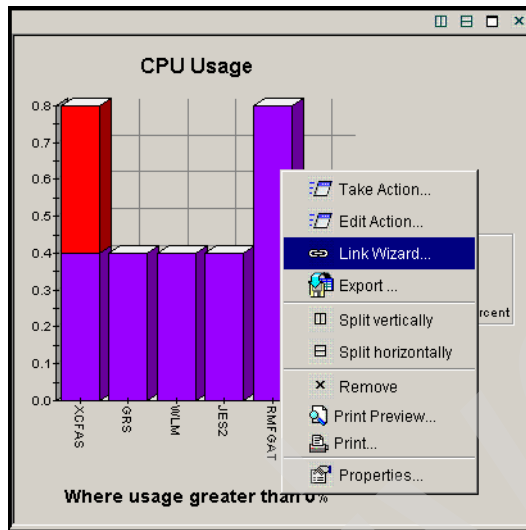

Figure 6-6 Linking from a (bar) chart
- A bar chart or pie chart in a chart view. Figure 6-6 shows an example of using the bar chart view to create a link.